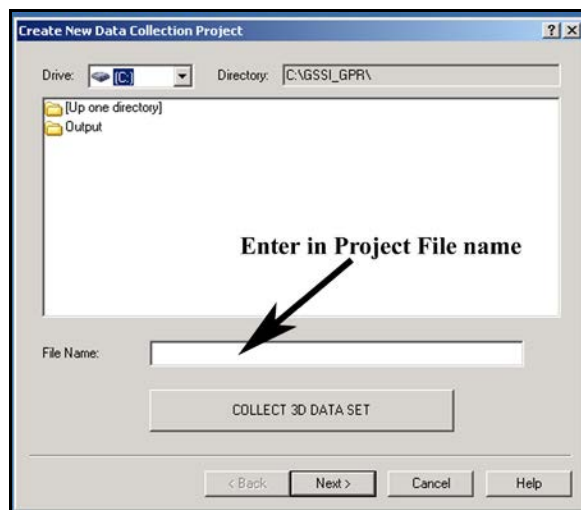

Figure 10: Project File Name box.
- 1 Create a new collection project by going to File > New or clicking the New Project button  on the collection controls bar. This will open a window with the heading Create New Data Collection Project (Figure 10).